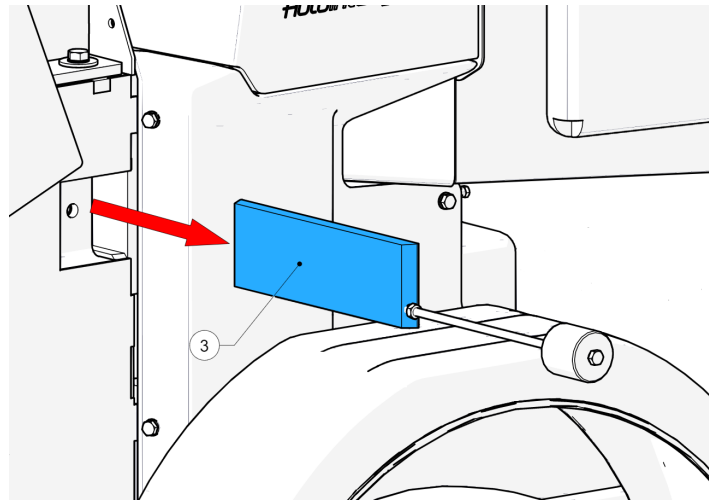

Figure 60 - Anvil removed
10. Using the slide hammer, extract the anvil (3, Figure 60) through the side of the chamber.